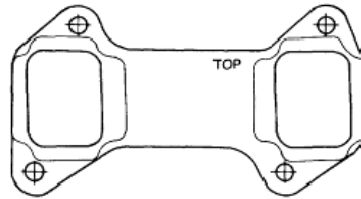

Figure 7 Exhaust Manifold Gasket Installation
- a. Position two new exhaust manifold gaskets on the cylinder head so that the word 'TOP' is toward the manifold (Figure 7).